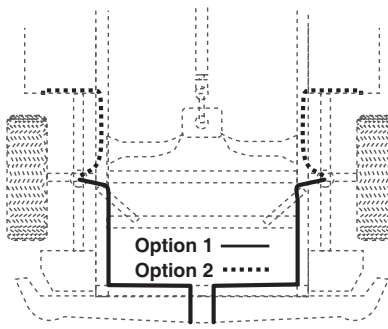

fig. 16
6. Route the air line along the frame to the air fitting on the air spring (Fig. 16). Keep AT LEAST 6" of clearance between the air line and heat sources, such as the exhaust pipes, muffler, or catalytic converter. Avoid sharp bends and edges. Use the plastic tie straps to secure the air line to fixed, non-moving points along the chassis. Be sure that the tie straps are tight, but do not pinch the air line. Leave at least 2" of slack to allow for any movement that might pull on the air line.